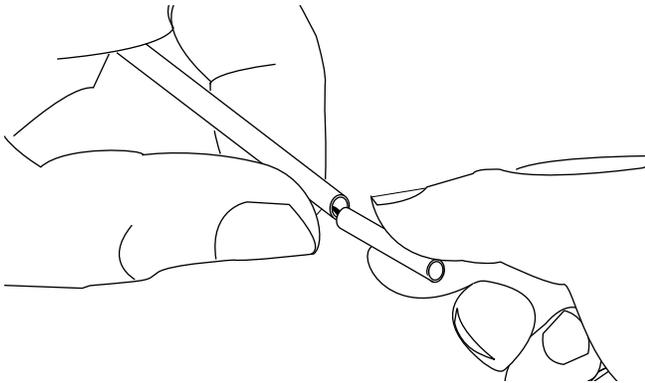

Figure 31
d) Carefully flex the tube to break it at the score point. The break should be clean and free of rough edges (Figure 31).